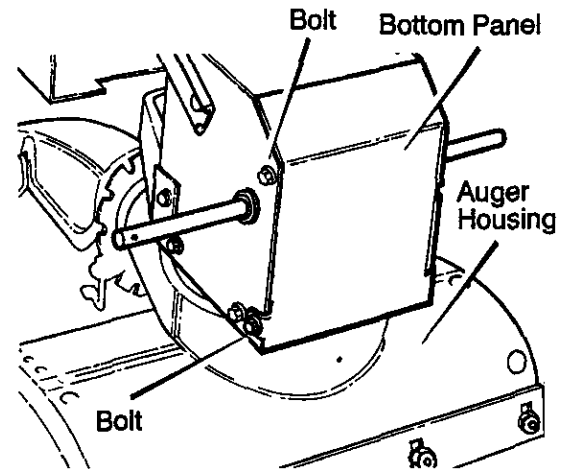

Figure 37
2. Stand the snow thrower up on the front end of the **auger housing** (see Figure 37).
4. Loosen the **bolts** on each side of the **bottom panel** (see Figure 37).
5. Install the **bottom panel** (see Figure 37).
2. Stand the snow thrower up on the front end of the **auger housing (4)**. (see Figure 37).